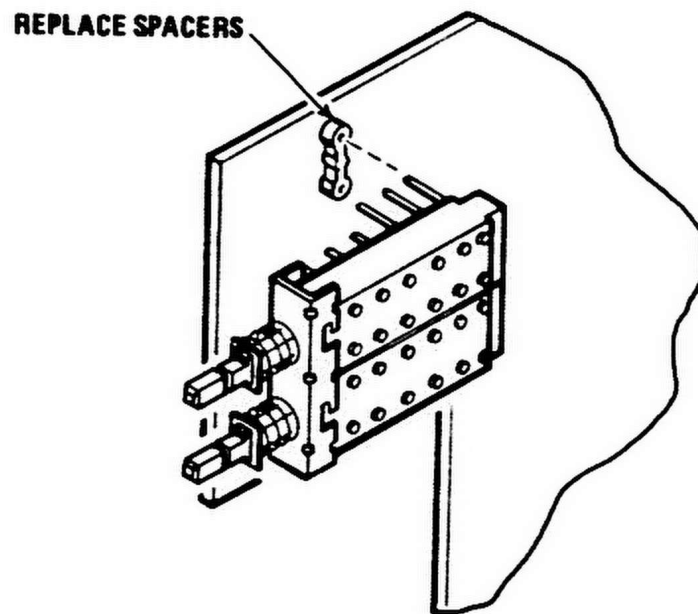

Fig. 2. Location of Switch Spacers.
- () 3. Replace S372A and S372B with the switch from the kit and be sure to replace the 0.078 inch spacers with the 0.109 inch spacers from the kit (refer to Fig. 2).